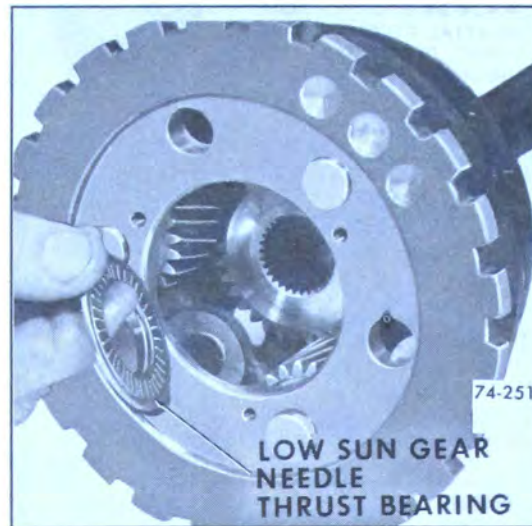

Figure 74-251
6. Remove low sun gear needle thrust bearing. See Figure 74-251.